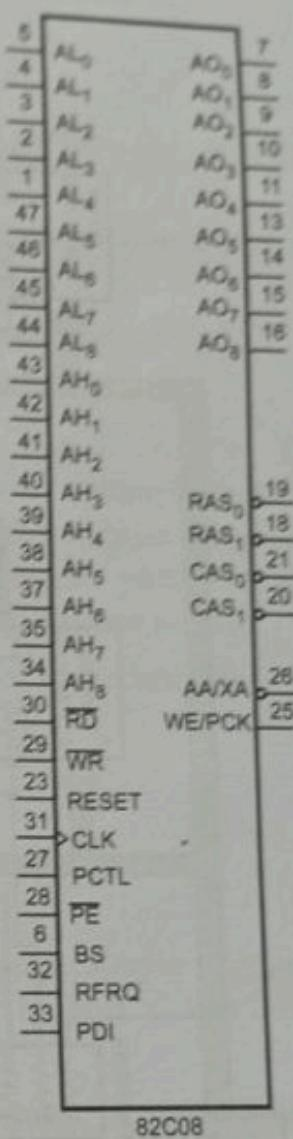

Fig. 3.3.3 Pin diagram of 82C08 DRAM controller
- Fig. 3.3.3 shows pin diagram of DRAM controller. AL_0 - AL_8 and AH_0 - AH_8 are the address inputs for DRAM controller and AO_0 - AO_8 are the address outputs from the DRAM controller.